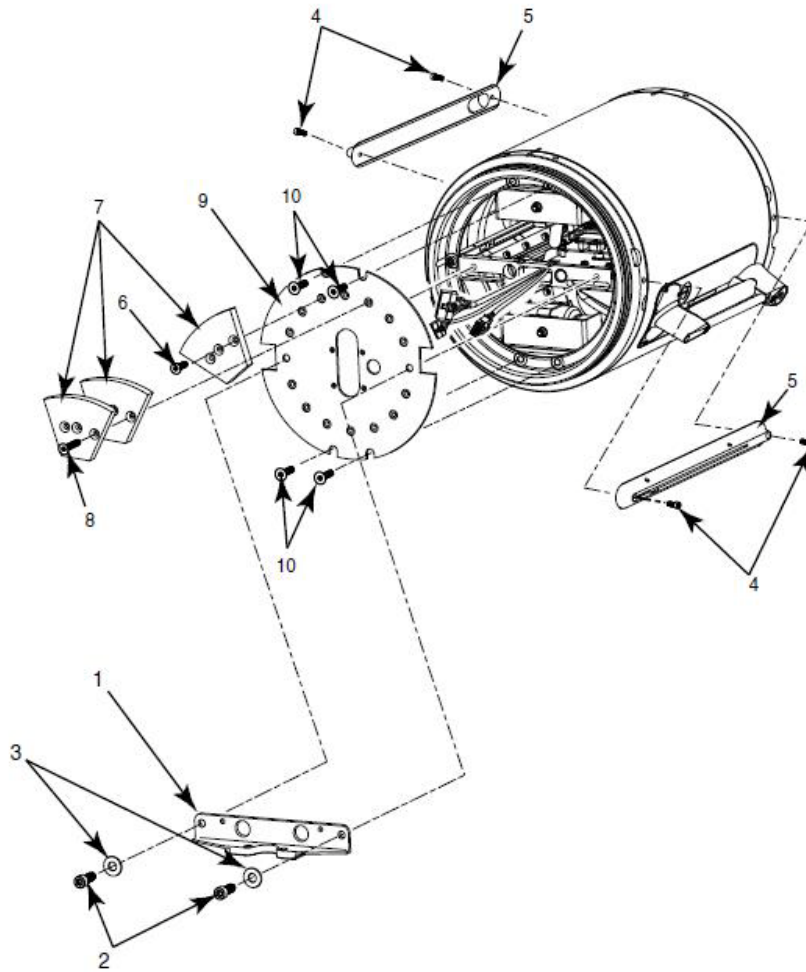

Figure 2-21 Payload bay assembly.
1. Remove the four screws (Figure 2-21, Item 10) from the aft payload bay guard (Figure 2-21, Item 9).
2. Remove the aft payload bay guard (Figure 2-21, Item 9) from the payload bay by removing the two screws (Figure 2-21, Item 2) and the two washers (Figure 2-21, Item 3).
NOTE With the screws (Figure 2-21, Item 2) and flat washers (Figure 2-21, Item 3) removed, the aft battery receiver bracket (Figure 2-21, Item 1) will be unattached and must be retained.
4. If using one roll weight (Figure 2-21, Item 7), remove one screw (Figure 2-21, Item 6).
5. If using three roll weights (Figure 2-21, Item 7), remove one screw (Figure 2-21, Item 8).
6. Remove the four screws (Figure 2-21, Item 4) from the snap-in wing support (Figure 2-21, Item 5).
7. Remove the snap-in wing support (Figure 2-21, Item 5).
1. If using one roll weight (Figure 2-21, Item 7), install one screw (Figure 2-21, Item 6).
2. If using three roll weights (Figure 2-21, Item 7), install one screw (Figure 2-21, Item 8).
3. Place the snap-in wing support (Figure 2-21, Item 5) in position on the payload bay.
4. Install the snap-in wing support (Figure 2-21, Item 5) with four screws (Figure 2-21, Item 4).
6. Install the aft payload bay guard (Figure 2-21, Item 9) to the payload bay by inserting the two screws (Figure 2-21, Item 2) and two washers (Figure 2-21, Item 3), through the aft
battery receiver bracket (Figure 2-21, Item 1) and into the aft payload bay guard (Figure 2-21, Item 9). Do not over tighten.
7. Install the four screws (Figure 2-21, Item 10) to the aft payload bay guard (Figure 2-21, Item 9).